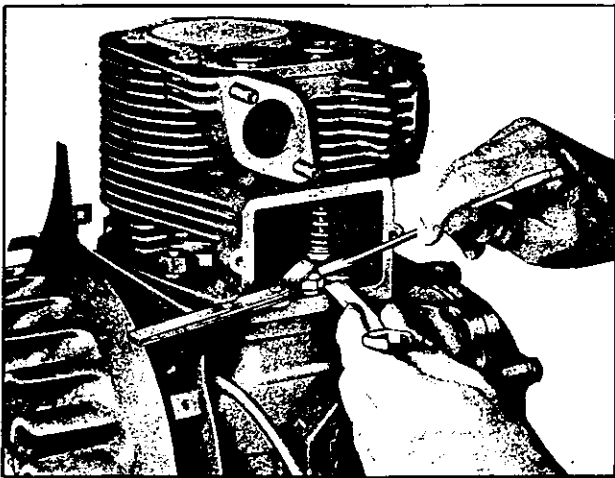

Fig. 41 293060C
*Tappet adjustment* can be made immediately after assembling the valves, springs and locks, See Fig. 41.